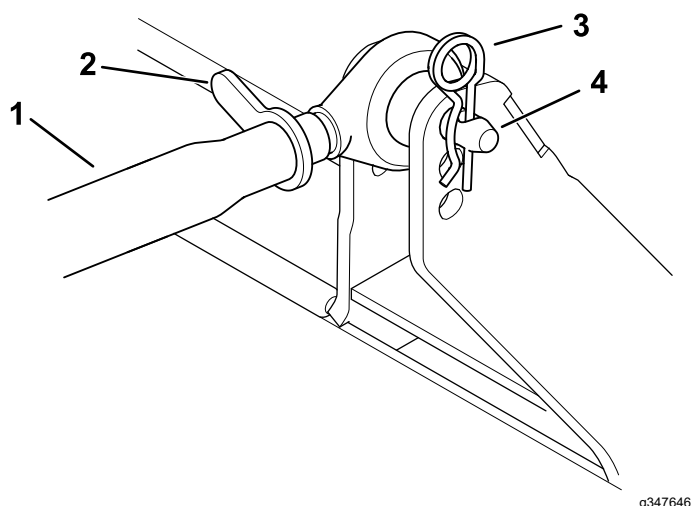

Figure 8
1. Connect the upper link arm to the bracket and secure it with the link pin and the lynch pin (Figure 8).